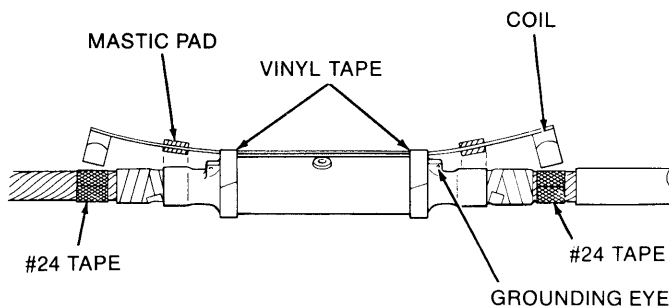

Figure 7
1. Position shield continuity assembly over splice and hold it in place with a wrap of two of vinyl tape at each end of splice body (Figure 7). Form the shield continuity strap over the splice shoulder (Figure 9) on each end.
2. Note position of coil over cable shield wires and wrap "Scotch" #24 Metallic Shielding Tape (one complete length as supplied) at this point (Figure 7). Install coil over the #24 Tape (see "Coil Application" procedure). Do this for both ends.
- b. After removing liner, place one vinyl mastic pad **under** strap, mastic side toward strap and located at the end of the splice body (Figure 7). Place a second pad over the strap and first pad and press together, mastic to mastic forming a sandwich. (This will be overwrapped with #13 Tape).